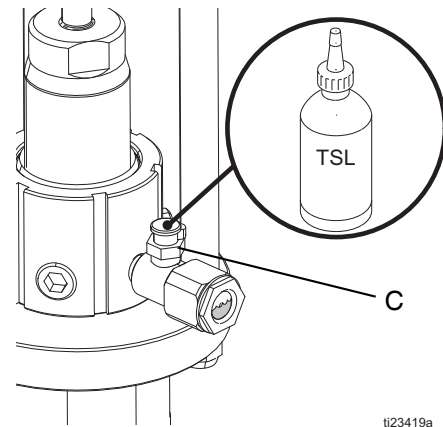

FIG. 2. Fill Wet Cup
Before starting, fill wet cup fill port (C) 1/2 full with Graco Throat Seal Liquid (TSL) or compatible solvent. See FIG. 2.